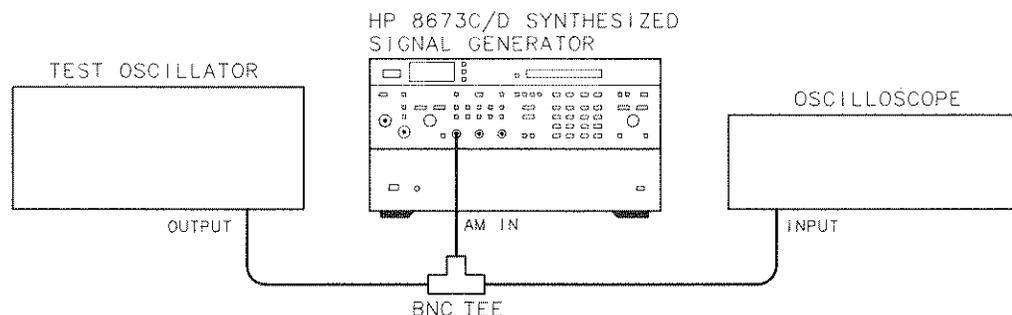

Figure 3-8. AM Functional Check Setup
- 33. Set the test oscillator to 10 kHz at a minimum output level or 0V. Then, connect the test oscillator and oscilloscope to the Signal Generator as shown in Figure 3-8.